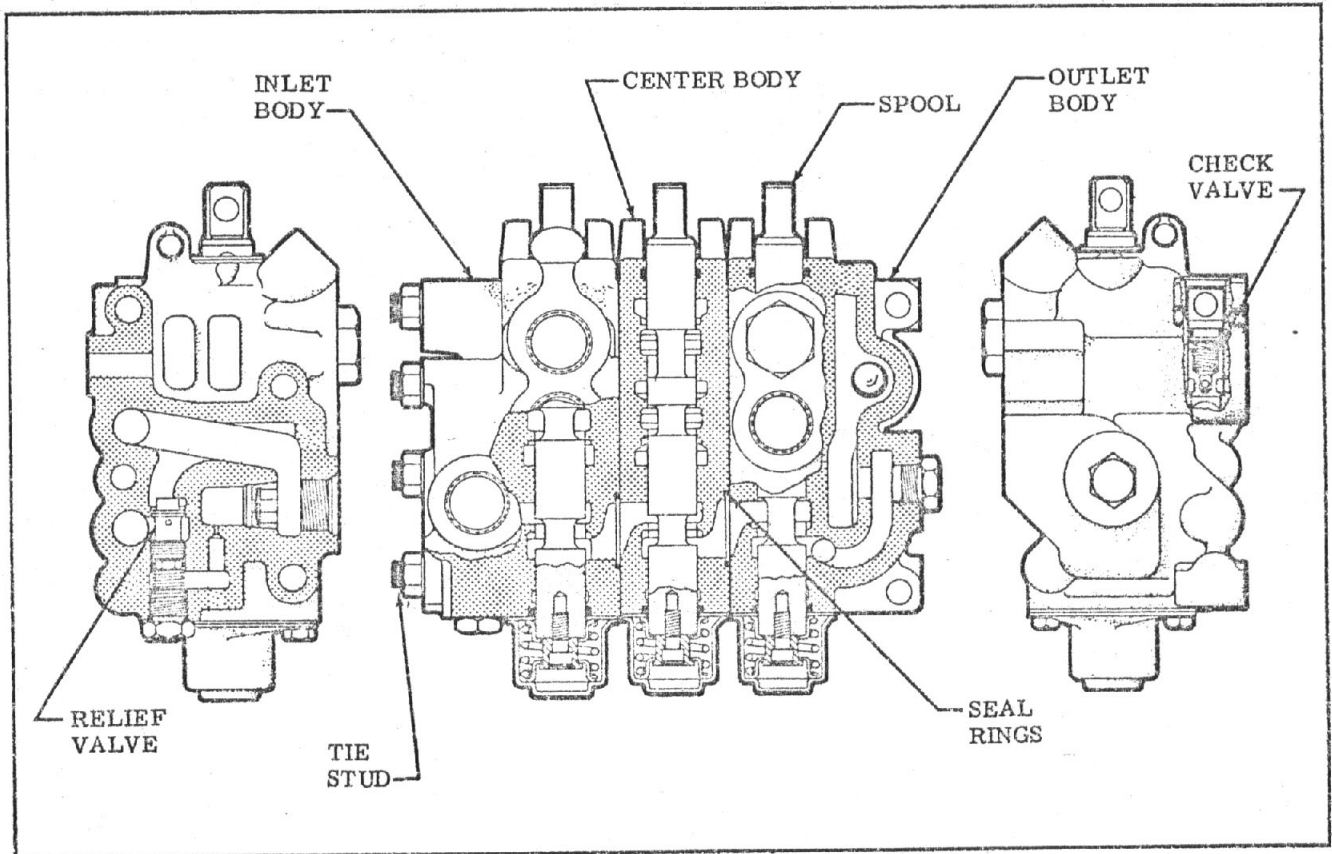

Figure 1
- b. Assembly and Construction--Figure 1 is a cross-sectional view showing the construction and assembly of a three-section valve. Each section normally contains a sliding spool with centering springs and a check valve. The inlet section also contains a relief valve assembly. Passages between the bodies connect each section to the common inlet and tank ports. Seal rings between the sections seal the connecting passages. Sections are held together by studs and nuts.